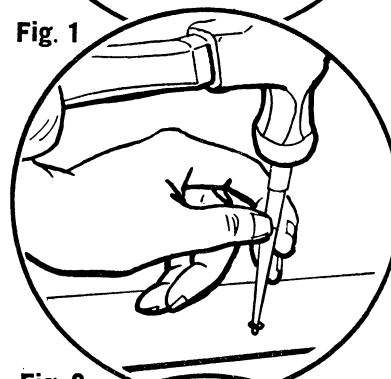

Fig. 2
- To avoid hammer marks on the wood, use a nail set (Fig. 2) or another nail to drive a nail the last one-eighth inch into the wood.